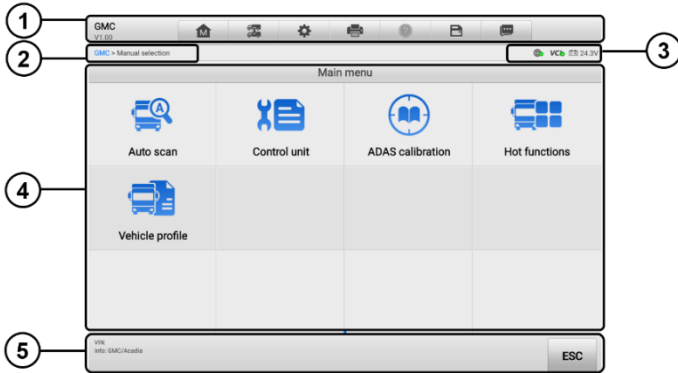

Figure 4-6 Main Menu Screen
1. Tap the **Diagnostics** application button on the MaxiSys Job Menu. Choose the corresponding vehicle information and enter the Main Menu screen (Figure 4-6).